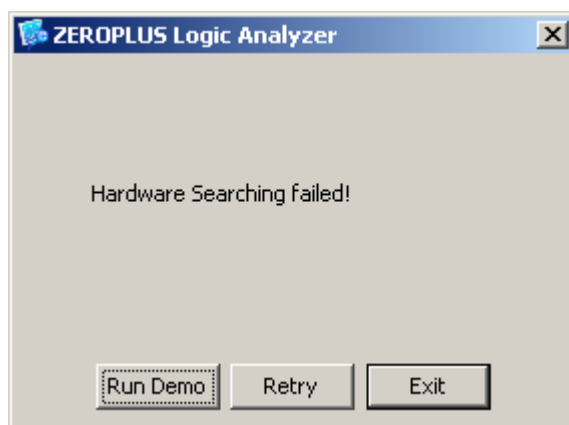

Fig. 5-1: Select **Run Demo** if you do not have the actual hardware.
**A:** Yes, you can. You can run the program under the demo mode. See. *Fig5-1*.